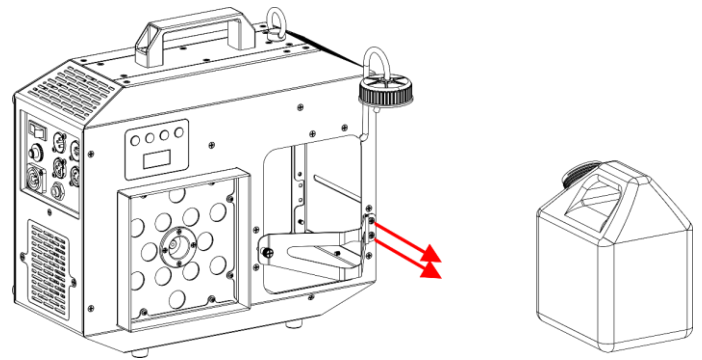

Fig. 11
- 06) Unscrew the 2 screws of the bracket, as shown in Fig. 11.